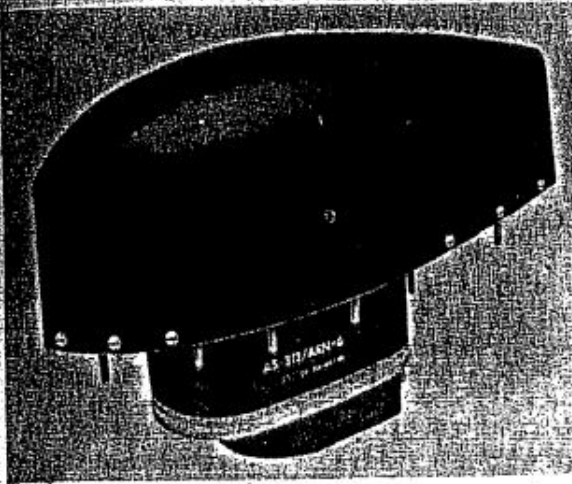

Figure 1-8. Loop AS-313/ARN-6, AS-313A/ARN-6, or AS-313B/ARN-6
f. **LOOP AS-313/ARN-6, AS-313A/ARN-6, AN AS-313B/ARN-6.** (See figure 1-8.)—Loop AS-313/ARN-6, AS-313A/ARN-6, or AS-313B/ARN-6 is an iron core loop of nine turns, electrically center-tapped by means of a shunt coil of twelve turns and electrically shielded. The loop, in operation, is rotated by the drive motor through a reducing gear train. The compensator, which can be adjusted externally, is utilized to correct for radio compass deviation errors. An autosyn transmitter is geared through the compensator to the rotatable loop and supplies loop position information to the remote indicator system. The loop is designed for mounting through the skin of the aircraft. The entire loop unit is hermetically sealed and filled with dry nitrogen. It cannot be opened without special equipment.